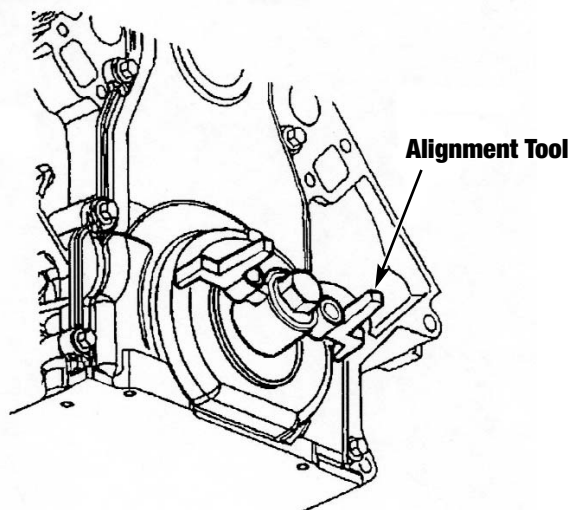

Figure 2 - Front Cover Alignment Tool
9. Install the front cover, using a new gasket if needed. Install front cover bolts hand tight **ONLY**. Use front/rear cover alignment tool J-41476 and align the tapered legs of the tool with the machined alignment surfaces on the front cover (**See Fig. 2**). Install the crankshaft balancer bolt and tighten by hand until snug. Tighten the front cover bolts to 18 ft./lbs. Make sure the bottom of the front cover is flush with the oil pan gasket surface.